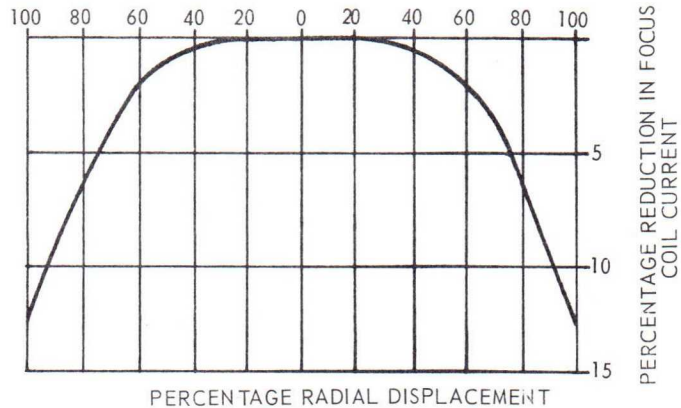

FIGURE 2
1. Operation with all magnetic focus is necessary to achieve highest resolution. Magnetic dynamic focus is necessary to obtain uniform resolution over the storage surface. The approximate shape and amplitude of the magnetic dynamic focus waveform are given in Figure 2.